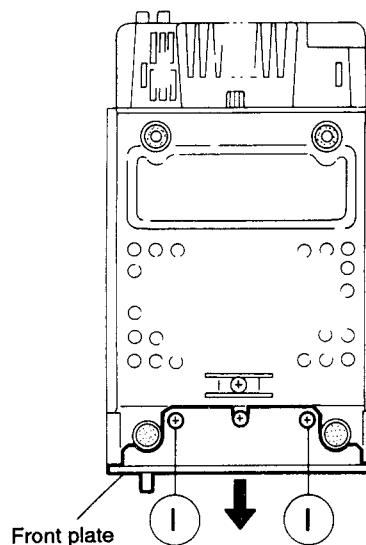

Fig. 5-3
■ Removing the front plate (See Figs. 5-3 and 5-4)
1. After turning over the body, remove the two screws ① retaining the front plate (See Fig. 5-3).